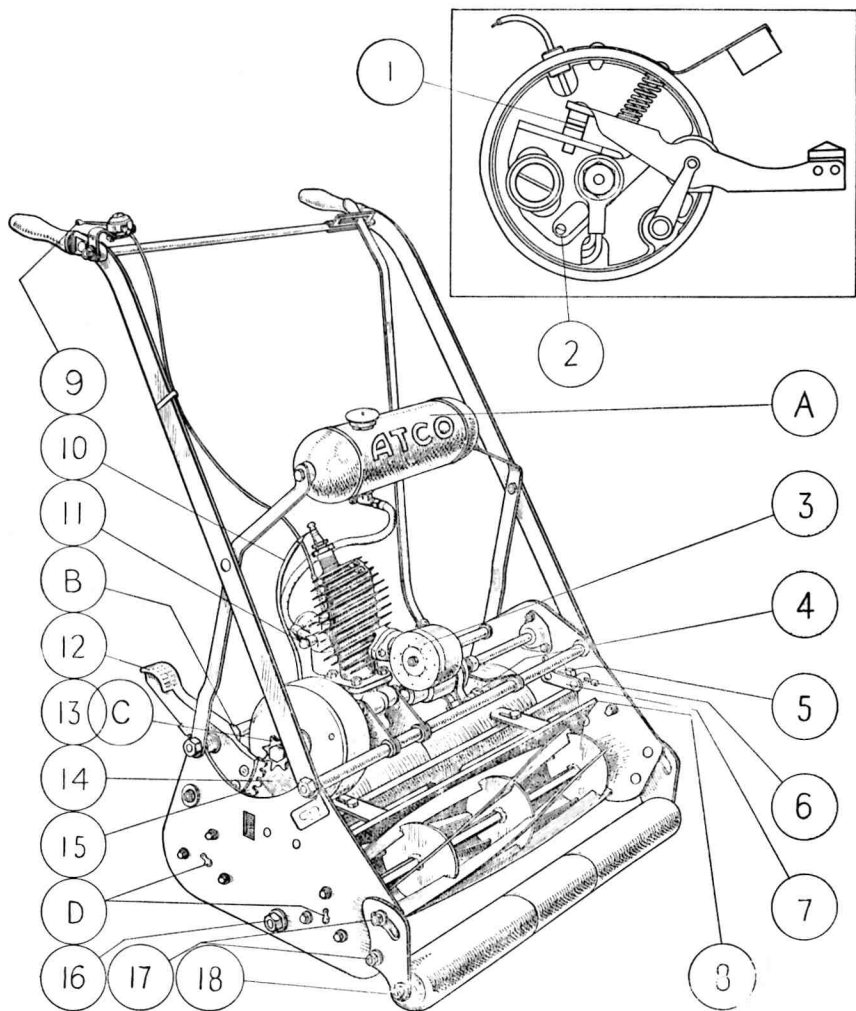
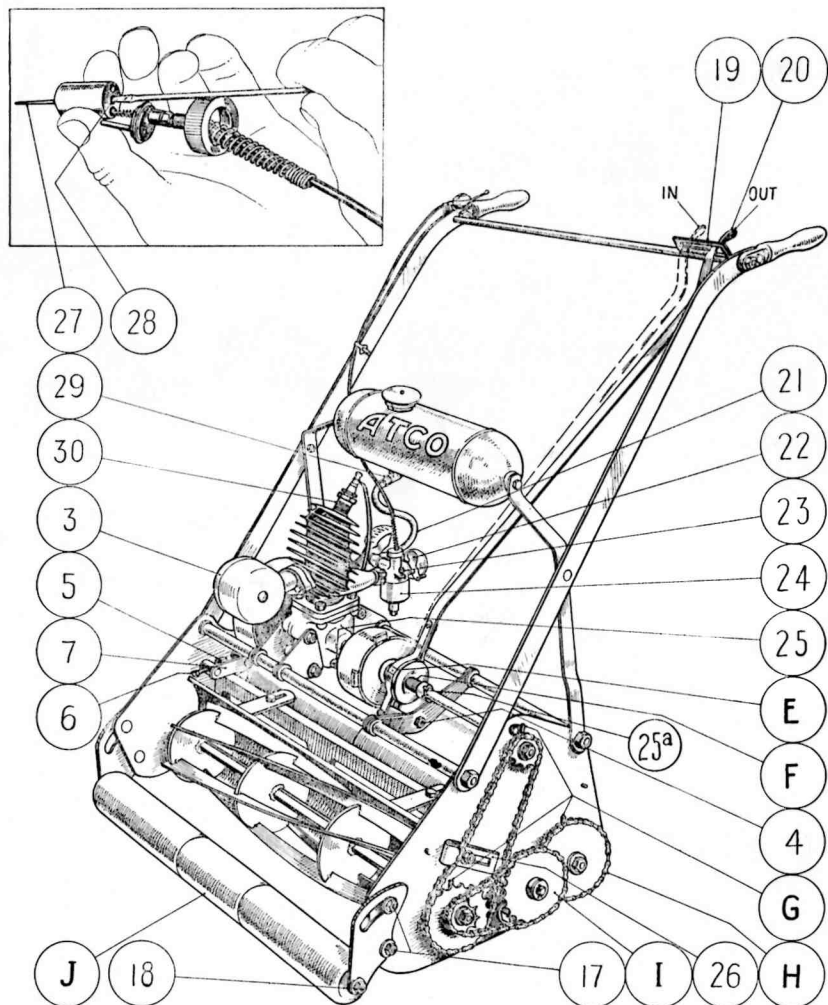

FIGURE 1
FIGURE 2
1. See that the Tank (A. Fig. 1) has a supply of Petroil. Petroil mixture for new machines consists of $\frac{3}{4}$ pint of oil to two gallons of No. 1 Petrol.
2. Open the petrol tap (29 Fig. 2) and thoroughly flood carburetter (23 Fig. 2). At the same time (but only when starting up from cold) close the air strangler or choke (22 Fig. 2).
3. Open throttle lever (9 Fig. 1) (about one half of its travel).
4. See that the clutch (20 Fig. 2) is in free position.
5. Holding the handles, engage kick starter (12 Fig. 1) gently and, having engaged it, depress sharply, and if necessary repeat until engine fires. Do not remove foot from starter but return starter gently to position of rest.
Note. In the event of the teeth (15 Fig. 1) of the Kick Starter not engaging freely with the teeth of the Kick Starter Free Wheel (13 Fig. 1) when the Starter Pedal is pressed, and this does occasionally happen in Starters of such simple design, release the Pedal. With the finger or foot move the Free Wheel very slightly in either direction and they will then engage easily and unnecessary wear of both sets of teeth will be avoided.
At least twice a season, it is advisable to drain the crankcase by taking out the drain plug (25 Fig. 2), and allowing the petrol to drain off. (Do this off the lawn for preference, because if it falls on the lawn it will temporarily disfigure a small patch).
The Atco-Villiers carburetter (24 Fig. 2), though of extremely simple and efficient design, should not, if possible, be tampered with. It is designed to render jet stoppage almost impossible. Occasionally, however, it is advisable to undo the union nut (11 Fig. 1) at the carburetter end of the petrol pipe, and take out the small gauze filter cap. This can be easily lifted out with a pin or piece of wire, but care should be taken not to damage it. It should then be cleaned and replaced.
THE ENGINE MAY HAVE BEEN TURNED OVER SEVERAL TIMES WITHOUT STARTING, OR IN SOME OTHER WAY SUCH AS EXCESSIVE FLOODING, PETROIL MAY HAVE ACCUMULATED IN THE CRANKCASE. THIS MAY HAVE "DRENCHED" OR "SOOTED UP" THE SPARKING PLUG (30 Fig. 2) OR MADE THE MIXTURE TOO RICH.
Drain crankcase by removing the crankcase drain plug (25 Fig. 2) and allowing petroil to run out. Also remove sparking plug, and after petroil has drained from crankcase, turn the engine over sharply several times. This will blow out all excess petroil.
The same oil as used to make the petroil mixture may be used. The only points requiring the regular use of the oil can are the chains (H. Fig. 2), the clutch (E. and F. Fig. 2), the bearings (D. Fig. 1 and G. Fig. 2), the kick starter (B. and C. Fig. 1), and the front rollers (J. Fig. 2), as follows:
1. **ALL CHAINS** (H. Fig. 2). A few drops of oil fortnightly on each chain.
To ensure this, they should be dismantled (by undoing the end nuts (18 Fig. 1 and 18 Fig. 2), when they will slip out of the slots in their brackets). Take the rollers off, thoroughly clean the bearings inside each roller and the shaft itself. Smear thoroughly with oil and reassemble, taking care to replace the distance washers between rollers and to smear these washers thoroughly with oil.
3. **DRIVING SIDE OF MACHINE.** Remove chain cover. Locate the three oil tubes (G. Fig. 2) running to rear roller shaft bearing, clutch shaft bearing, and cutter shaft bearing. A few drops of oil in each of these every fortnight. A few drops of oil should also be given to each side of intermediate chain wheel (I. Fig. 2), fortnightly. Replace chain cover.
4. **OTHER SIDE OF MACHINE.** Locate two oil hole covers (D. Fig. 1) and swivel these to one side, exposing oil holes. A few drops of oil in each hole fortnightly.
5. **THE CLUTCH.** The only points requiring lubrication on the Cork insert clutch are as follows : (i) A few drops of oil weekly on the clutch operating forks (E. Fig. 2), between the hardened pads of the operating forks and the withdrawal collar. This ensures the machine drawing backwards freely; (ii) A few drops weekly on the clutch spring (F. Fig. 2).
6. **KICK STARTER.** A few drops of oil monthly in oil hole in centre bush (B. Fig. 1). Also a few drops monthly on each side of the kick starter freewheel (C. Fig. 1).
NOTE.—IT IS UNNECESSARY AND ALSO UNDESIRABLE TO SLACK OFF THE MAIN NUTS (16 Fig. 1) WHICH FORM THE PIVOT OF THE BOTTOM BLADE BEARER.
Two arms (5 Fig. 1 and Fig. 2) from the bottom blade bearer terminate in screw adjusting brackets (7 Fig. 1 and Fig. 2) fixed on the inside of each side frame at the back of the grass delivery plate (8 Fig. 1). To bring bottom blade into closer contact with the cutter, which is necessary as wear takes place, very slightly slacken the two back screws and tighten up two front screws (6 Fig. 1 and Fig. 2).
Slack off nuts (17 Fig. 1 and Fig. 2) on either side, and bring rollers forward slightly for a shorter cut, backwards slightly for a longer cut. Lock up nuts. Front roller brackets have graduated marks to ensure uniform adjustment either side.
The sole adjustment (whilst very rarely necessary) is very simple to make and is done by adjusting the pivot pin at the lower end of the clutch lever (20 Fig. 2). This is adjusted by means of the two nuts (4 Fig. 1 and Fig. 2), one on either side of the frame plate to which it is fixed. When in proper adjustment the operating lever (20 Fig. 2) should have approximately $\frac{1}{2}$ -in. of free movement in the gate (19 Fig. 2) at the top, before the pads are in close contact with the withdrawal collar on the clutch.
Should the clutch slip after prolonged use, the notched collar (25a Fig. 2) behind the clutch spring should be turned to the next notch in order to increase the spring pressure.
Key to Figure 1.
Key to Figure 2
4. **CONVEYOR PLATE** (8 Fig. 1). **For controlling the "throw of grass."**
The handle grips are readily adjustable to suit the height of the operator. The two nuts of one handle are loosened, and the handle set to the preferred position. Then the same nuts are tightened up. The other handle is then dealt with likewise. By thus attending to each handle in turn there is no chance of the position of the clutch lever gate (19 Fig. 2) being altered during this operation.
The taper needle (27 Fig. 2) setting is normal when the needle protrudes $\frac{1}{16}$ -in., but half a turn on the spring loaded adjuster screw (28 Fig. 2) will weaken or enrichen it sufficiently to accommodate all normal climatic changes and generally it is best left where it is.
The flywheel magneto cover (14 Fig. 1) is detachable for inspection, or to clean or adjust the magneto points (1 Fig. 1). It is rarely necessary to adjust, but the timing is correct when the points break $\frac{5}{32}$ -in. before the piston is at the top of its stroke.
- (a) Petrol Tap (29 Fig. 2)
- (b) Petrol Pipe (21 Fig. 2)